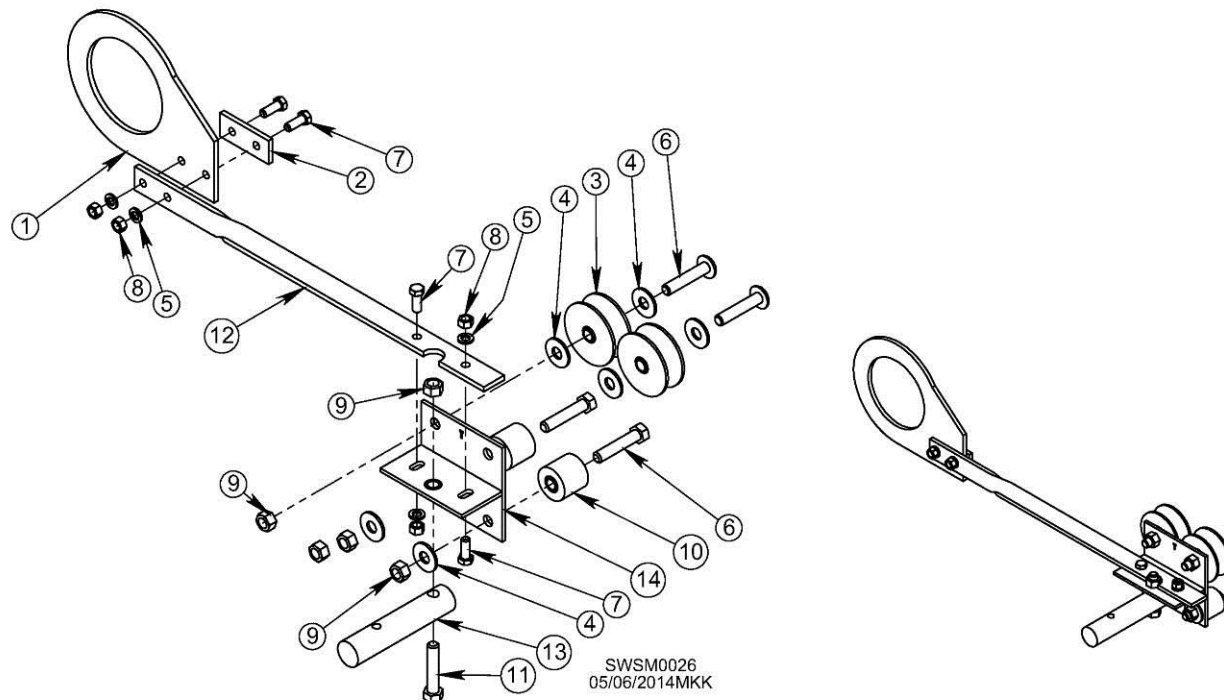

Figure 15 - Assembly of Stabilizer Kit Pivot Assembly, Exploded View
- 14 Assemble trolley assembly as described on page 20 and shown in **Figure 15**.
- 16 Add a 1/2" flatwasher to each 1/2" x 2-1/2" bolt and slide a top trolley pulley onto each, adding second 1/2" flatwasher on outside of pulleys. **Figure 15.**
- 17 Insert 1/2" x 2-1/2" bolt through roller assembly. **Figure 15.**
- 18 Add 1/2" locknut to each bolt. **Figure 15.**
- 19 Insert 1/2" x 2-1/2" bolt through hole on connecting shaft and slide up through center extended hole on weldment bracket. Add 1/2" locknut. **Figure 15.**
- 20 Insert 3/8" x 1-1/4" bolts through 2 holes trolley bracket cover, bracket plate, and bracket bar, adding 3/8" lockwashers and nuts. **Figure 15.**
- 21 Bolt bracket bar to weldment bracket using 2 3/8" x 1-1/4" bolts pointing down through assembly. Add 3/8" lockwasher and nut. **Figure 15.**